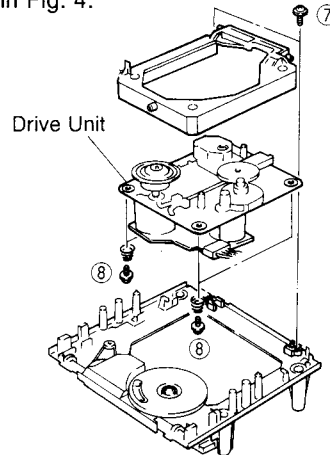

Fig. 4
- Remove 2 screws (⑦) in Fig. 4.
- Remove 4 screws (⑧) and then remove the Drive Unit in Fig. 4.